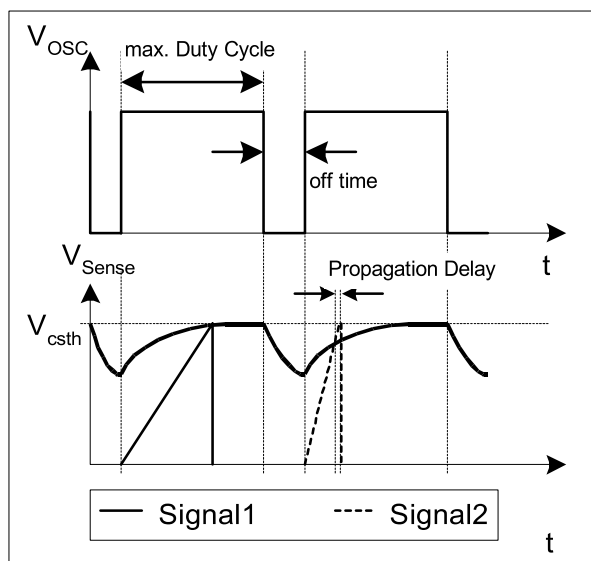

Figure 15 Dynamic Voltage Threshold V_{csth}
E.g. $I_{peak} = 0.5\text{A}$ with $R_{Sense} = 2$. Without propagation delay compensation the current sense threshold is set to a static voltage level $V_{csth} = 1\text{V}$. A current ramp of $dI/dt = 0.4\text{A}/\mu\text{s}$, that means $dV_{Sense}/dt = 0.8\text{V}/\mu\text{s}$, and a propagation delay time of i.e. $t_{Propagation Delay} = 180\text{ns}$ leads then to an I_{peak} overshoot of 12%. By means of propagation delay compensation the overshoot is only about 2% (see Figure 15).
The propagation delay compensation is done by means of a dynamic threshold voltage V_{csth} (see Figure 15). In case of a steeper slope the switch off of the driver is earlier to compensate the delay.